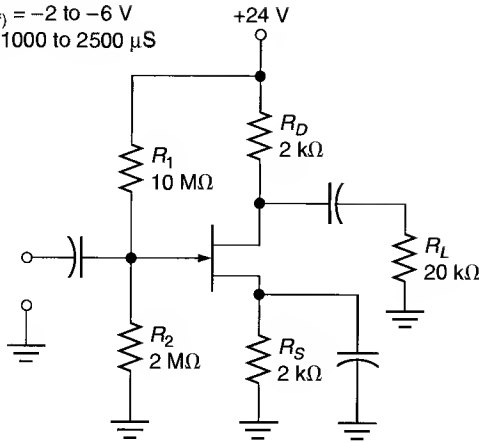

FIGURE 12.62
25. Determine the ranges of I_D and V_{DS} for the circuit shown in Figure 12.62.
33. Determine the range of A_v values for the circuit shown in Figure 12.62.